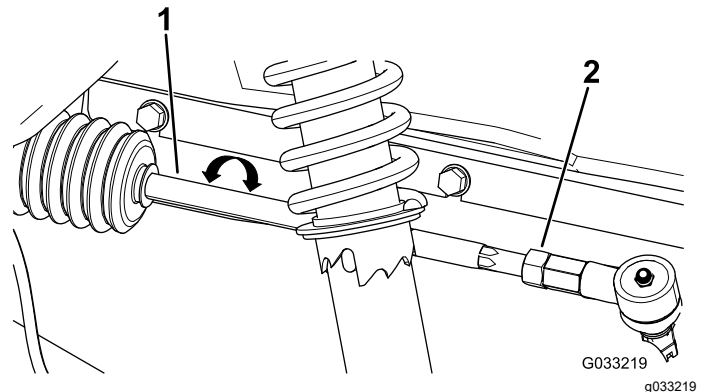

Figure 49
2. If the measurement does not fall within 0 to 6 mm (0 to 1/4 inch), loosen the jam nuts at the outer end of the tie rods (Figure 49).